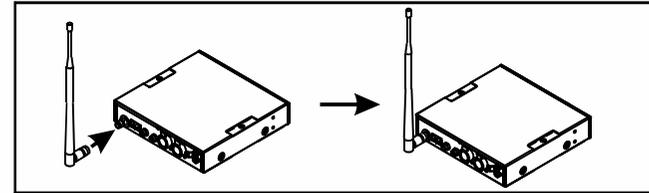

Fig. 2
1. Rear Antenna Installation, Fig. 2: